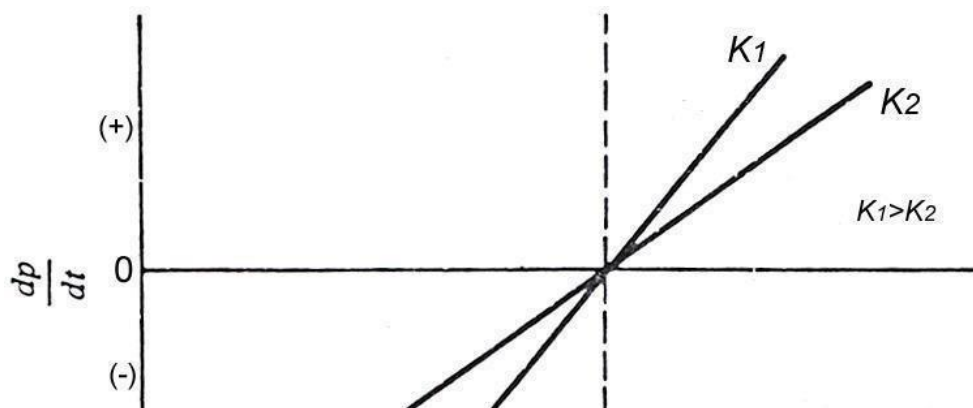
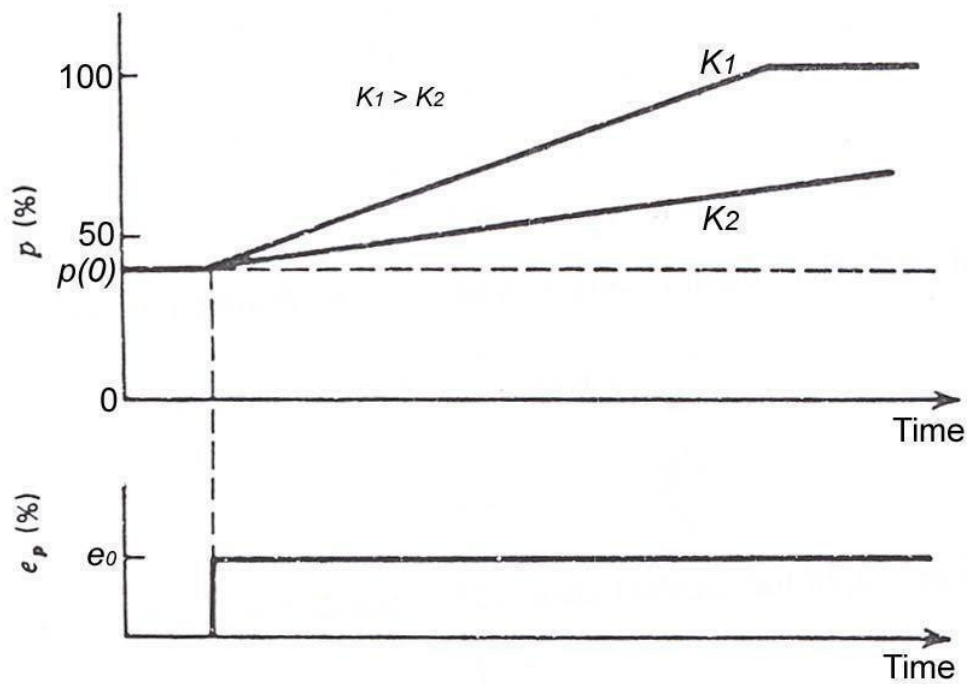

Fig. 2.13 Integral control action showing the rate of output change with error & gain
Fig. 2.14 Integral controller output for a constant error
The equation (12) shows that when an error occurs, the controller begins to increase (or decrease) its output at a rate that depends upon the size of the error and the gain. If the error is zero, controller output is not changed. If there is positive error, the controller output begins to ramp up at a rate determined by Equation (12). This is shown in Fig.2.13 for two different values of gain. It can be observed that the rate of change of controller output depends upon the value of error and the size of the gain. Figure 2.14 shows how controller output will vary